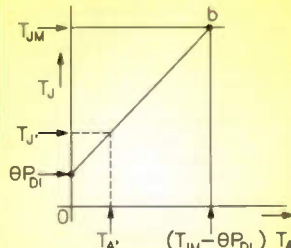

Figure 4. Plot of junction temperature  $T_J$  vs ambient temperature  $T_A$ , for circuits in Figure 3.
A graph of  $T_J$  vs  $T_A$ , based on (2), is shown in Figure 4. It is a straight line, with a slope of +1, that cuts the  $T_J$  axis at  $T_J = \theta P_{DI}$ . At any ambient temperature such as at  $T_A$ , the corresponding junction temperature is  $T_J$ . Of particular importance is the  $T_A$  at which  $T_J = T_{JM}$ . From the geometry of the diagram this is at  $T_A = T_{JM} - \theta P_{DI}$ , the point 'b' where the diagonal line cuts limit line  $T_J = T_{JM}$ .